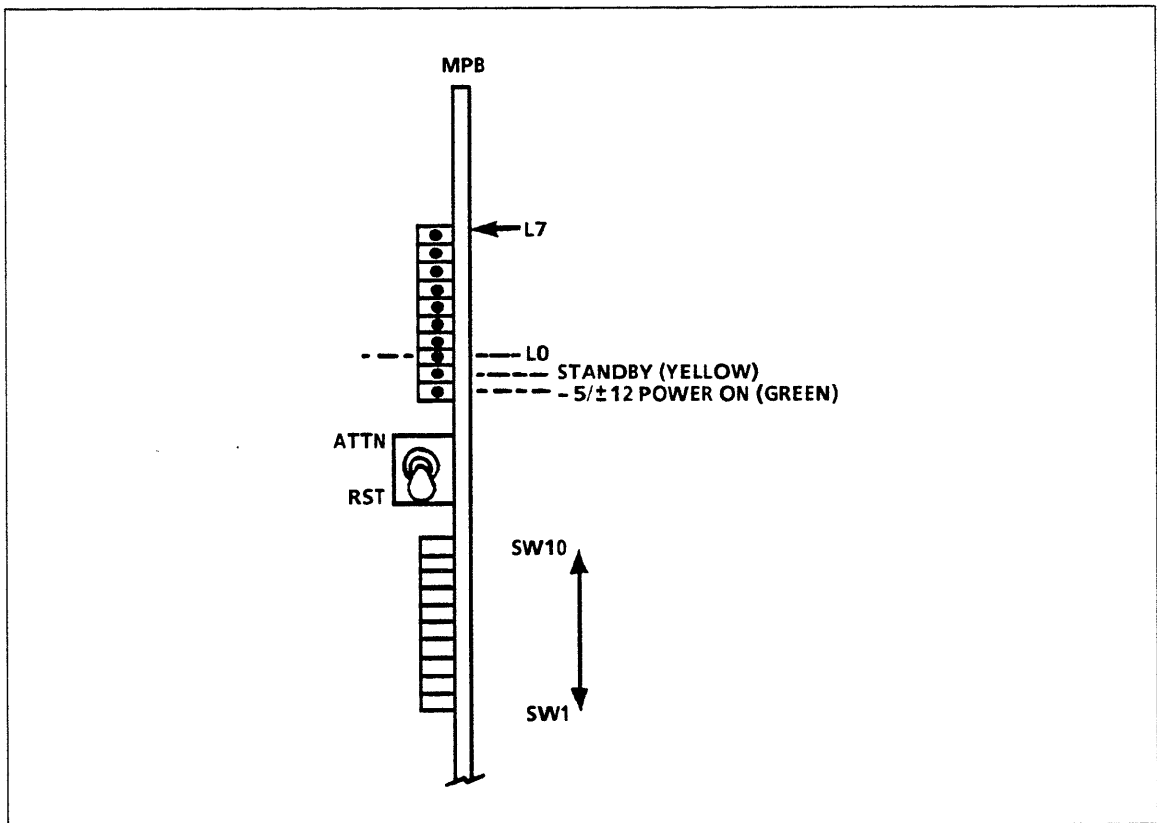

Figure 3-23. MPB Switches and Indicators
Figure 3-23 shows the MPB switches. There is one toggle switch (ATTN/RST) and 10 configuration switches. After you have entered the system identifier (previous procedure), set the switches as follows to prepare the MPB for normal operation.
2. Set the configuration switches as follows (figure 3-23):
3, 2, and 1	Refer to the cabinet configuration form (figure 3-2) to determine the slot number of the primary boot source. Set MPB switches 3, 2, and 1 equal to the slot number as shown in the table below. (L=left, R=right.) Figure 3-23 shows the location of the switches.